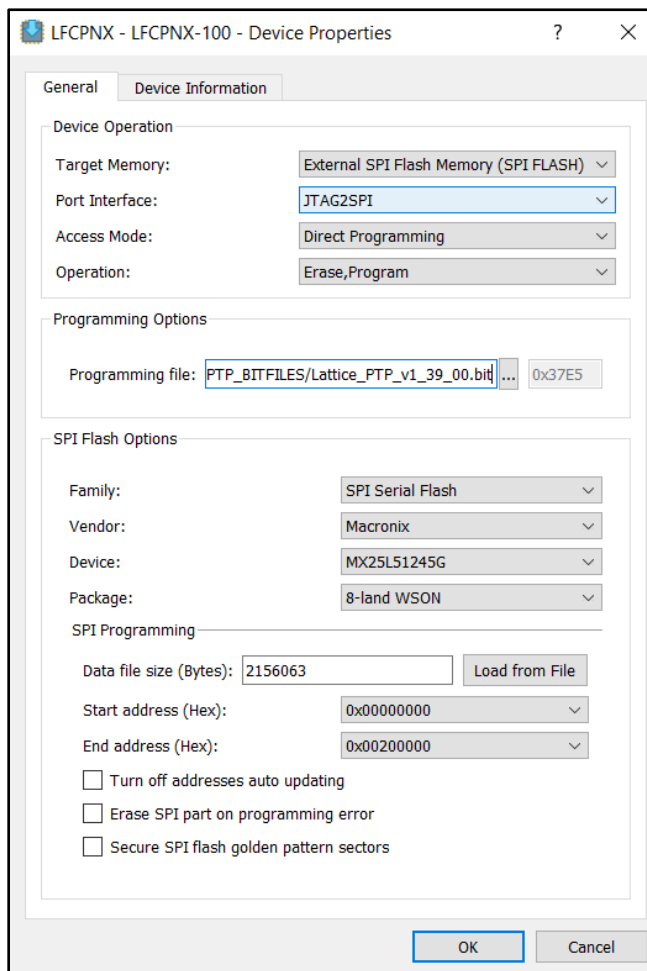

Figure 3.10. Device Properties Window for SPI Flash Programming
5. In the **Device Properties** dialog box, the **LFCPNX** (Device Family) and **LFCPNX-100** (Device) are indicated on the title bar. Select **Operation: Erase, Program** under **Device Operation** as shown in Figure 3.10.